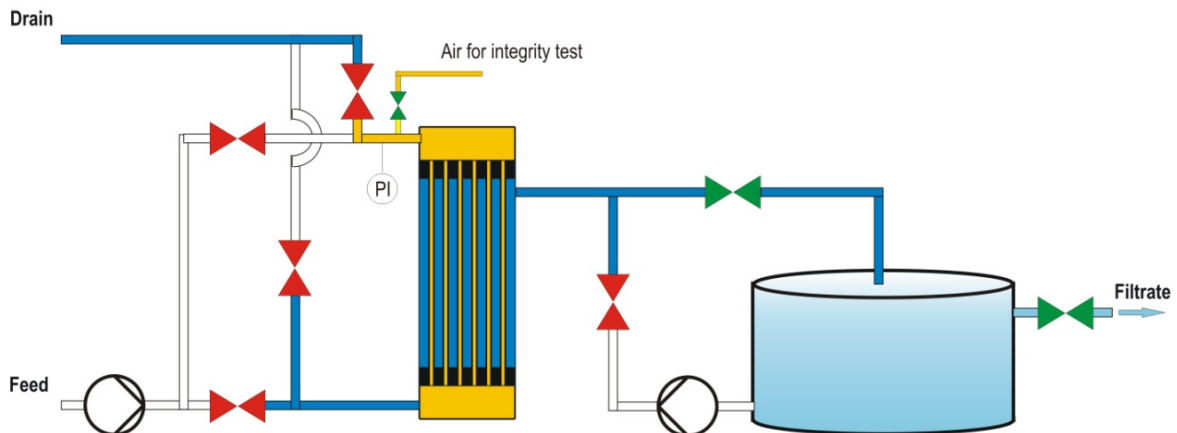

Figure 13-1: Dewatering phase for integrity test from feed side
- Fill the entire high-pressure side with dry, oil-free compressed air at a pressure of 1 bar (14.5 psi). The low pressure side of the modules must be left open to atmospheric pressure. The applied air pressure forces the water through the membrane from the high-pressure side to the low-pressure side (dewatering phase; Figure 13-1 shows an example using the feed side as the high-pressure side). In principle air cannot pass integral membranes due to the surface tension of the water in the membrane pores (diffusion processes not considered). The duration of emptying a T-Rack depends on total rack size and volume of connected pipework and compressor capacity. In our experience, the dewatering phase takes approximately 10 minutes to complete.